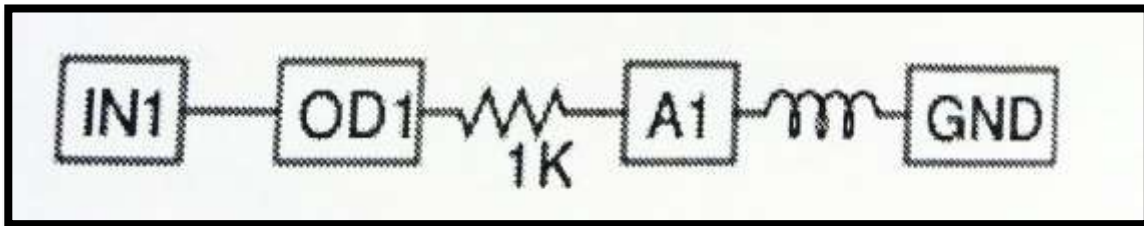

Figure 8 : Connection of LR circuit
- 1) Make connections as shown in figure 8 and 9.